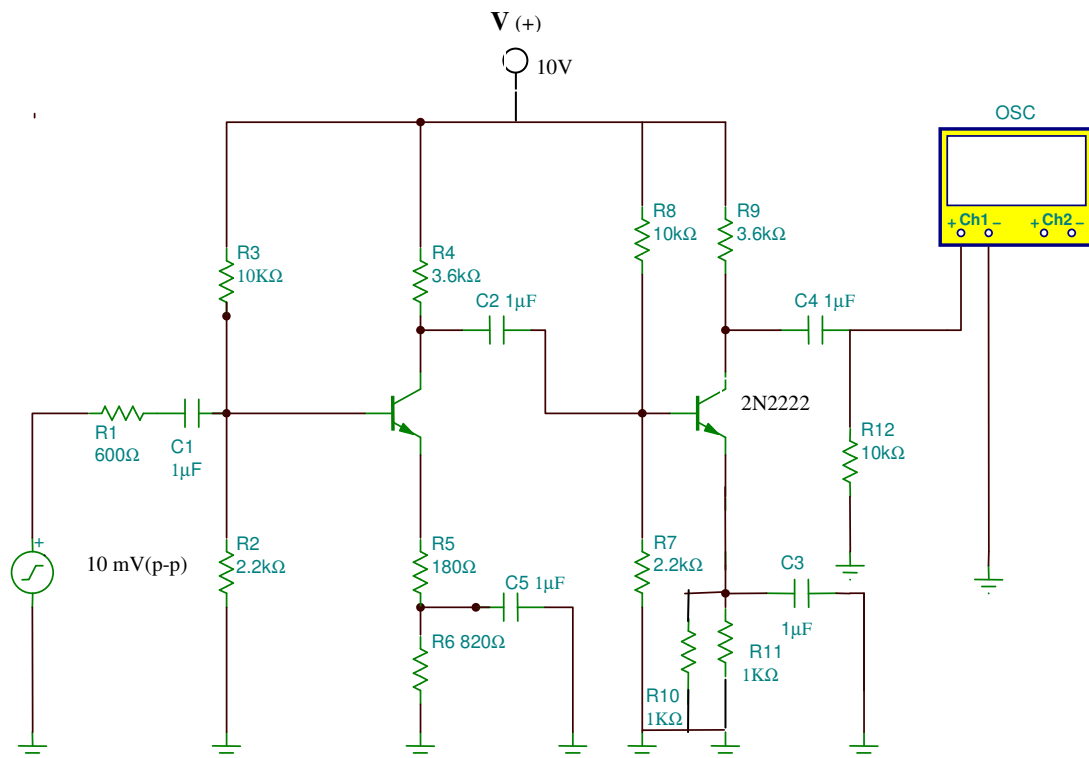
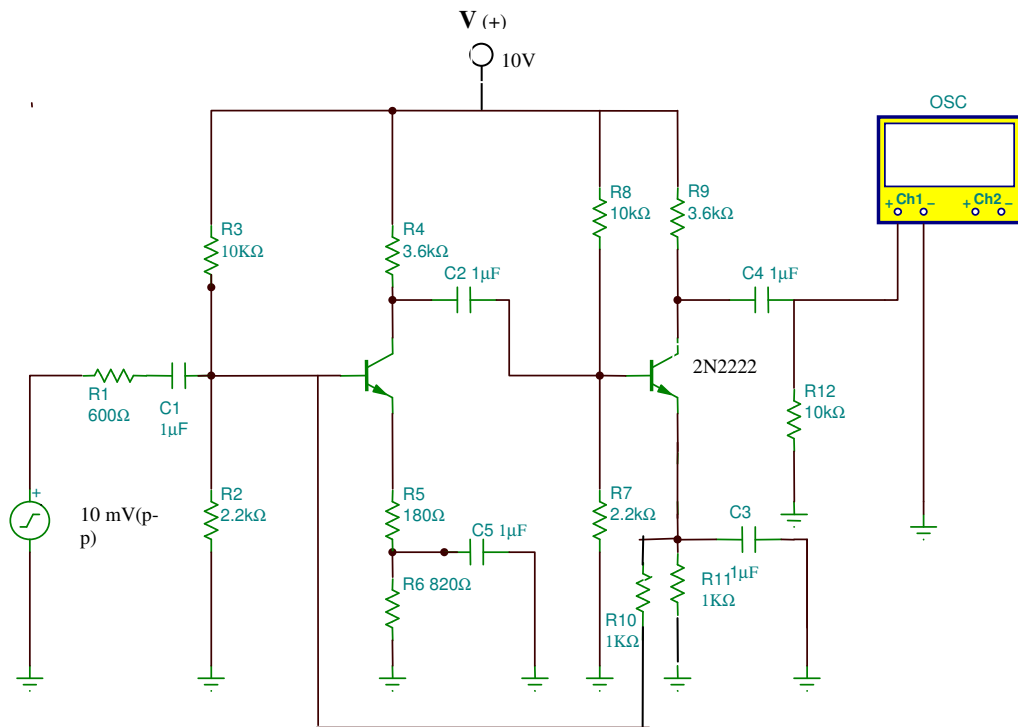
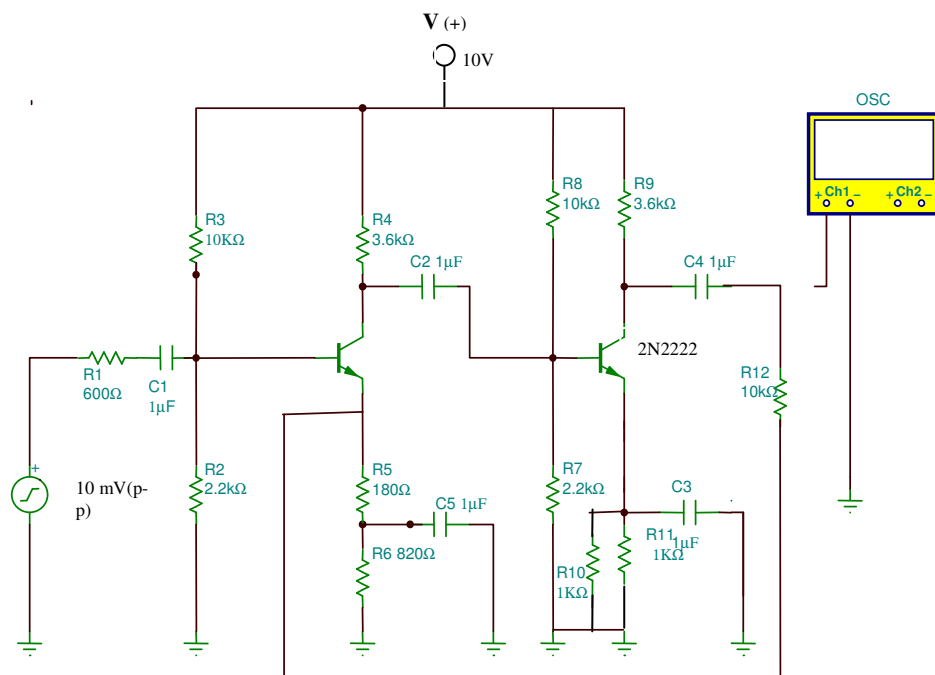

Fig. 7.1
Fig 7.2
Fig. 7.3
1. Assemble the RC coupled amplifier circuit as in Fig. 7.1. Give an input ac signal and see the output on the CRO screen. Increase the frequency till you get the maximum signal. Trace, input and output waveforms. Increase the frequency further, till the gain is equivalent to that corresponding to upper cutoff frequency. Trace the input and output signal at this frequency. Note down the cut off frequency. Now reduce the frequency, till you get the lower cut off frequency. Note down the lower cut off. Trace the input and output again at this frequency. Determine the mid band gain and band width for the amplifier circuit.
2. Now assemble the circuit as in Fig. 7.2 (for current feedback). Check a part of the output is being fed to the input. Once again, check the mid band gain (it is lower than that obtained for Fig. 7.1, why?). Trace the input and output at mid band gain frequency. Note down the and upper and lower cut off frequencies. Determine the mid band gain and band width for the amplifier circuit.
3. Now assemble the circuit as in Fig. 7.3(voltage feedback). Check a part of the output is being fed to the input. The feedback configuration is different than that in Fig. 7.2. Once again, check the mid band gain (it is lower than that obtained for Fig. 7.1, why?). Trace the input and output at mid band gain frequency, and note down upper and lower cutoff frequencies. Determine the mid band gain and band width for the amplifier circuit.
2. *What is the difference between the circuit of Fig 7.1 and that of the circuit used in second experiment?*